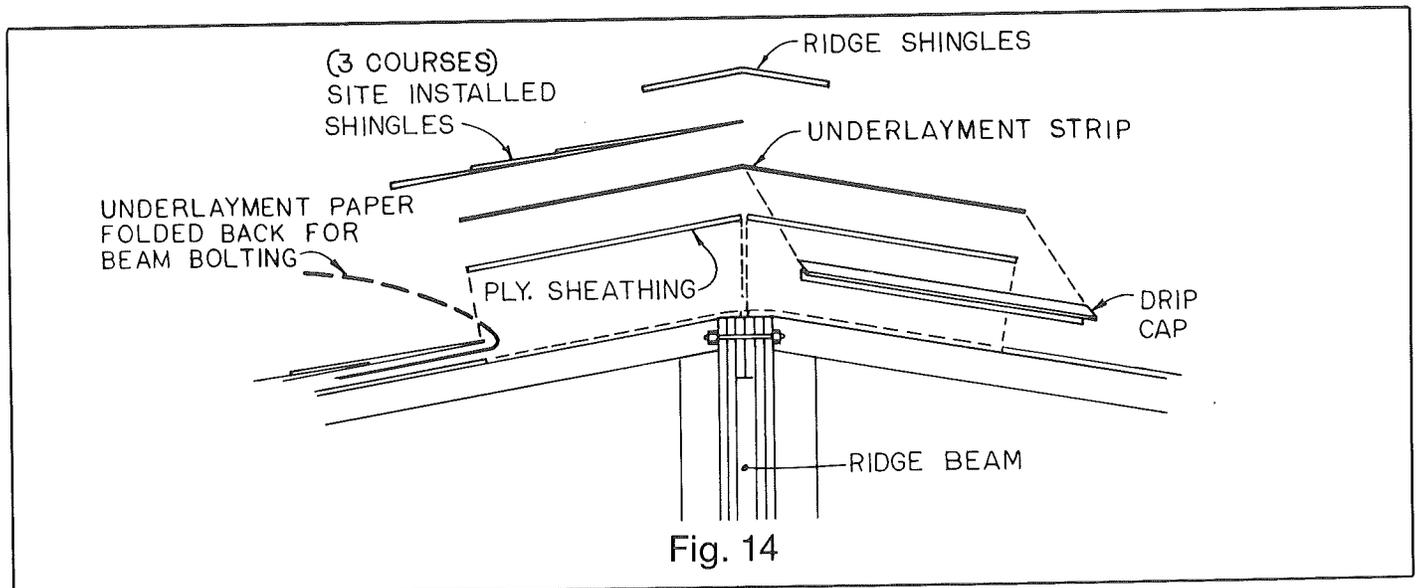

Fig. 14
4. See Fig. 14. Reinstall the  $\frac{3}{8}$ " x 12" wide sheathing using 16 gauge x  $\frac{7}{16}$ " x  $1\frac{1}{2}$ " staples or 8d twist nails 4 inches on center at butt joints and 3 fasteners at each rafter between joints.